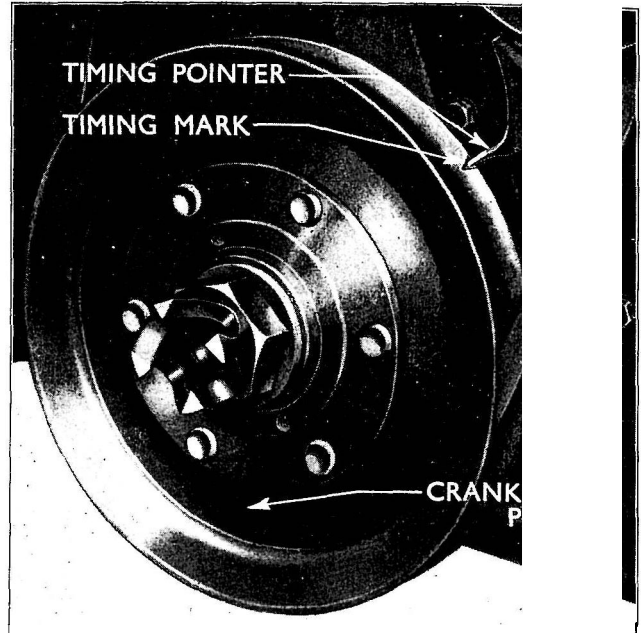

Fig. 250
- 4 Point the timing light at the timing pointer and observe if the pointer and the notch on the pulley are in line. (See Fig. 250.)